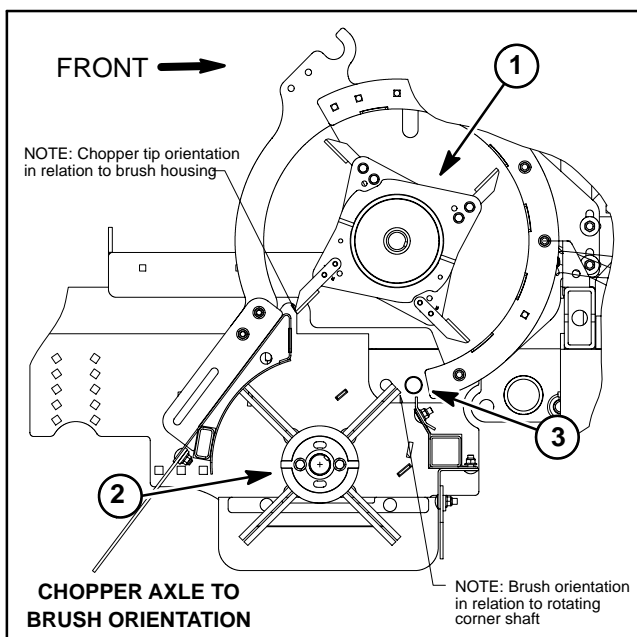

Figure 23
IMPORTANT: Make sure that brush shaft and chopper axle are properly aligned as drive belt is installed (Fig. 23). Improper alignment will decrease machine performance and may lead to increased debris buildup in Processor that can cause accelerated component wear and damage.
- C. Rotate chopper axle so that a row of chopper tips is aligned with the brush housing corner. Rotate brush shaft so that one of the brush tips is aligned with the rotating corner shaft (Fig. 23).
7. Adjust drive belt idler pulleys to achieve proper tension on drive belts (see Operator's Manual). After adjustment, make sure that chopper axle and brush shaft are still properly aligned (Fig. 23).